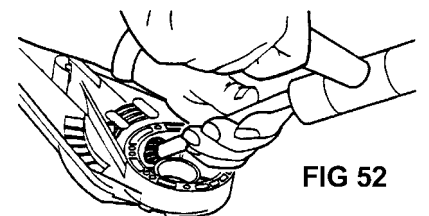

FIG 52
7. With a copper or brass punch (7/16" or 10mm in diameter) about 10" long, hold housing and tap pinion shaft out Fig 52.